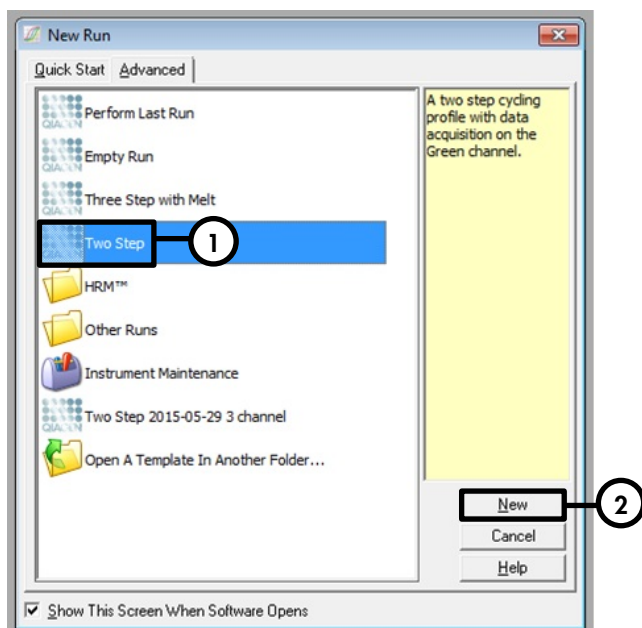

Figure 1. The New Run dialog box.
Setting the general assay parameters	Figures 1, 2, 3, 4
6. First, open the **New Run Wizard** dialog box with the **Advanced** version and select **Two Step** (Figure 1). Click **New** to continue.